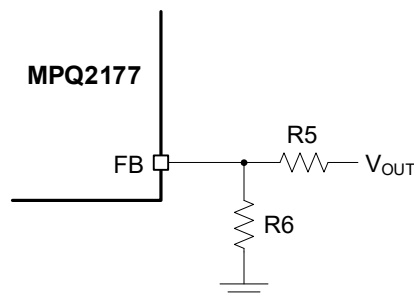

Figure 1: Feedback Divider Network with Adjustable Output
7. To use the enable (EN) function, apply a digital input to the EN pin. Drive EN above 0.9V to turn the regulator on; drive EN below 0.65V to turn the regulator off. If the enable function is not used, connect EN directly to V_{IN} .
8. The external resistor divider sets the output voltage (V_{OUT}) (see Figure 1).